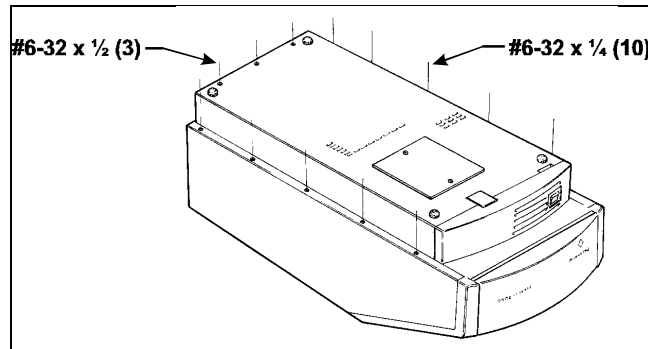
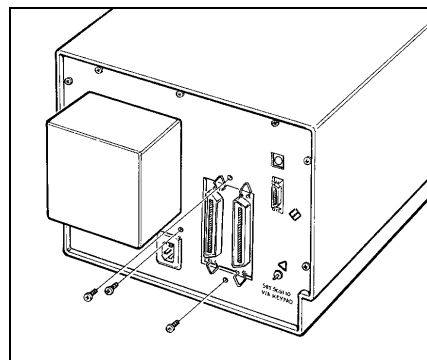

Figure 5-24. Securing the main cover to the pan assembly
Figure 5-25. Removing the rear cover screws
17. Turn the ProPalette unit upside-down and install the screws securing the main and rear covers to the pan assembly (Figure 5-24).
1. If you have not done so already, turn the ProPalette upside down and remove the 13 screws securing the main and rear covers to the pan (Figure 5-24 above). Then turn the unit right-side-up and remove the three screws securing the the ProPalette back cover to the electronics drawer (Figure 5-25).
- e. Turn the ProPalette unit upside-down and install the screws securing the main and rear covers to the pan assembly (Figure 5-24 on page 127).